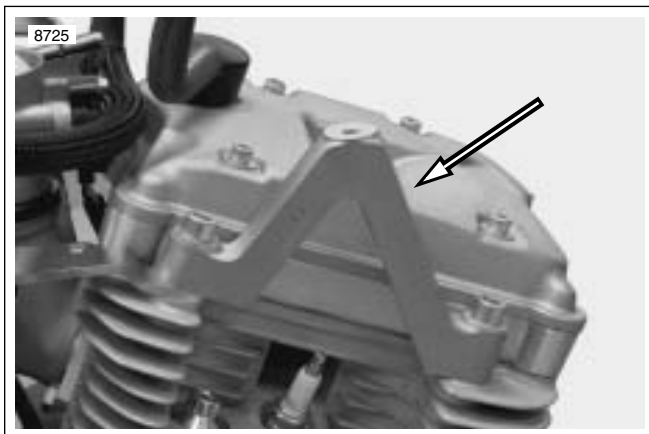

Figure 3-35. Center Tie Bar Mount
- b. See Figure 3-35. Center tie bar mount 30-33 ft-lbs (40.6-44.7 Nm).